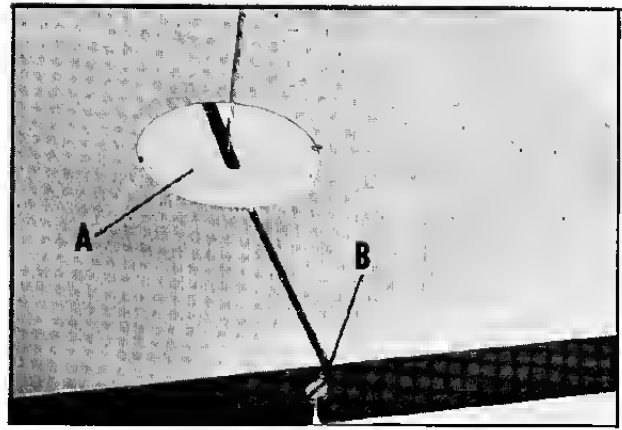

Fig. 22
3. Remove table insert (A) and table alignment screw (B) Fig. 22
7. Replace table alignment screw (B) and table insert (A) Fig. 22.